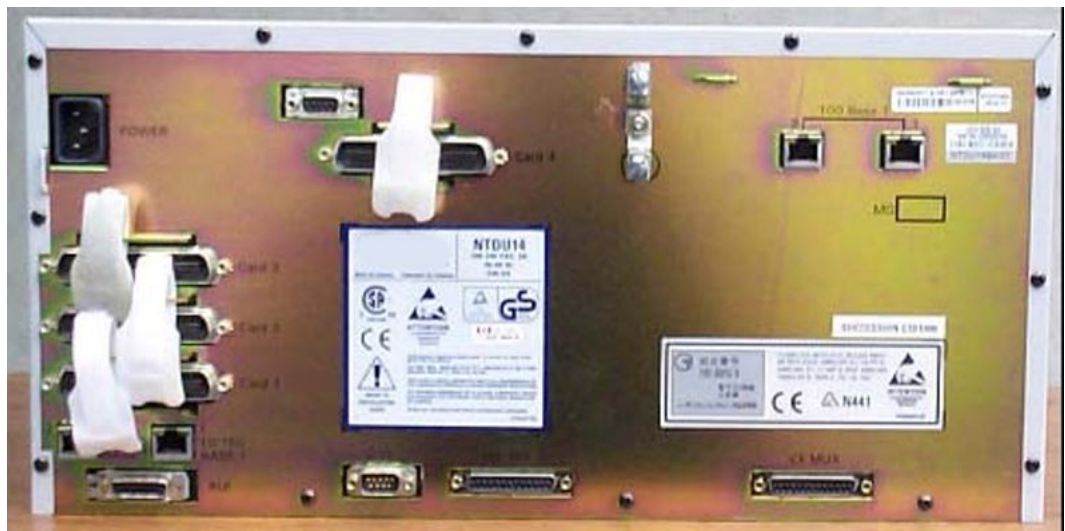

Figure 35: MG1000 chassis
1. Connect the MGC DECT Clock Reference Cable to the AUI port of the back of the MG1000 chassis. Figure 35: MG1000 chassis on page 172 shows the AUI port of the MG1000 chassis.